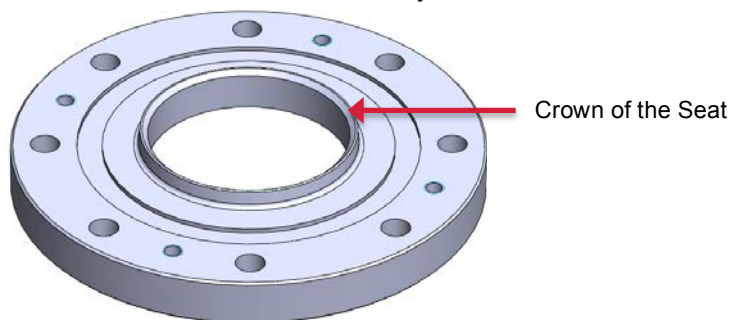

Figure 4-7 Valve Body
- 4.1.5.1 The sealing surface is the crown of the seat, (see Figure 4-7). Clean the seat with emery paper (400 grit) then wipe it clean with a cloth and a suitable solvent. Run your fingernail around the surface to detect any flaws.